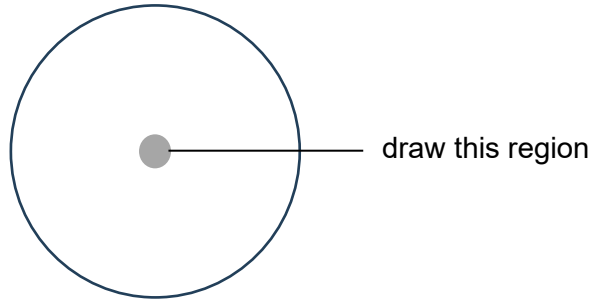

Fig. 3.2
- (i) Draw a large plan diagram of the vascular tissue region of the root on **K1**, as indicated by the shaded area in Fig. 3.2.